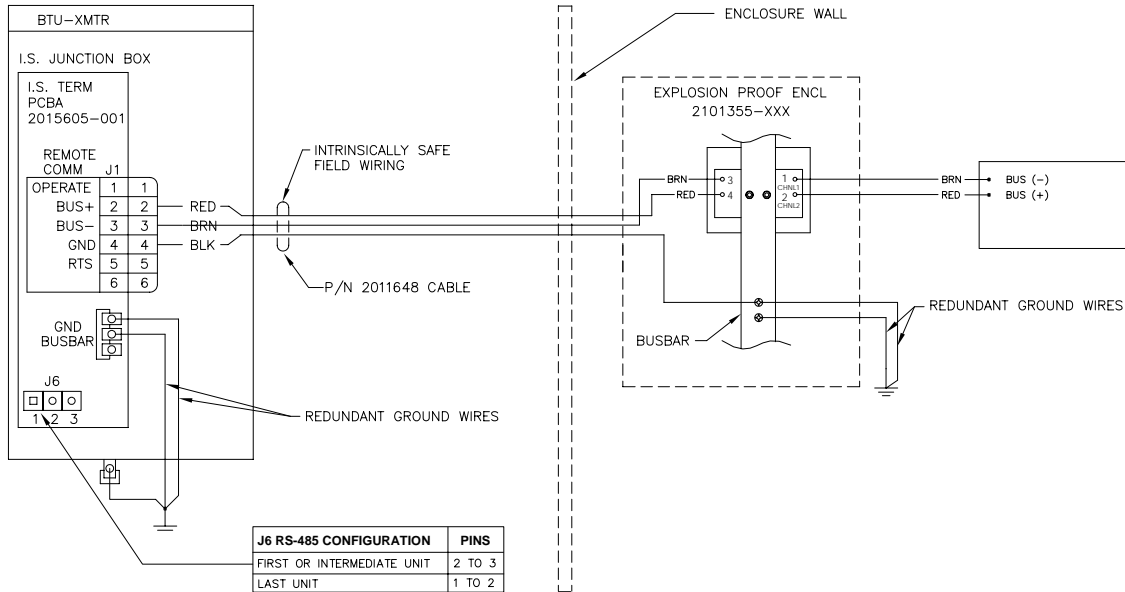

Figure 43 RS-485 I.S. Barrier Option Wiring Interconnect
- 15) Using the Wiring Instructions in Figure 43, make field connections to plug. Insert each wire in the corresponding pin and tighten keeper screw.
- 1) Using the wiring instructions shown in Figure 43, make all external connections.